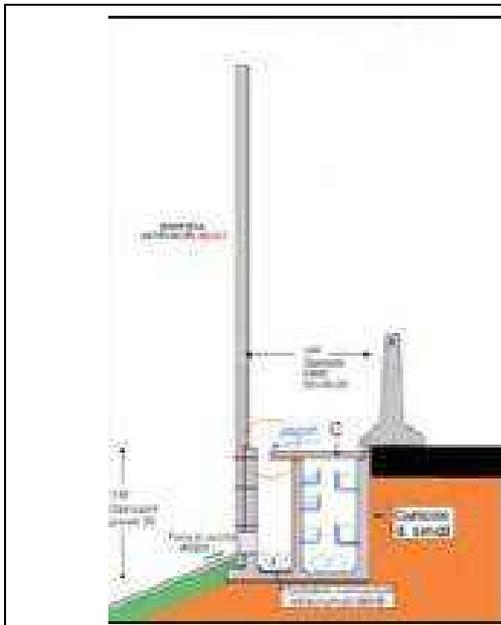

Fig.12
- Solution with concrete guard rail (Fig.12)